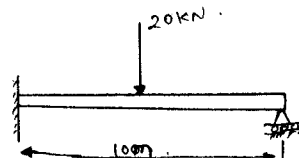

Fig. Q7(b)
b. A uniform C - S beam is fixed at one end and supported by a roller at the other end. A concentrated load 20 kN is applied at the mid length of beam as shown in Fig. Q7(b). Determine the deflection under load. (14 Marks)